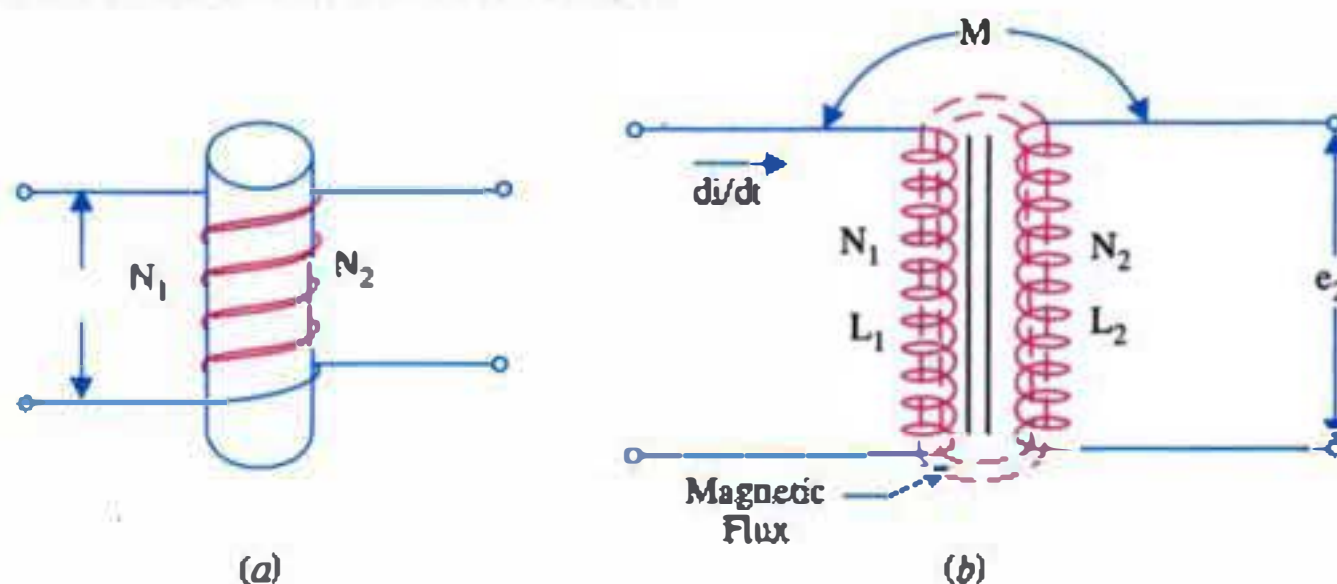

Fig. 5.17
When two coils are placed so close to each other (Fig. 5.17) that the expanding and collapsing magnetic flux of one coil links with the other, an induced emf is produced in the other coil. These two coils are then said to have mutual inductance (M).
As shown in Fig. 5.17 (b), let the rate of current change through the first coil be di/dt . This changing current will produce a changing magnetic flux through it which will link partly or fully with the second coil. Hence, an induced emf ' e_2 ' (called mutually-induced emf) will be produced in the second coil. Its value is given by